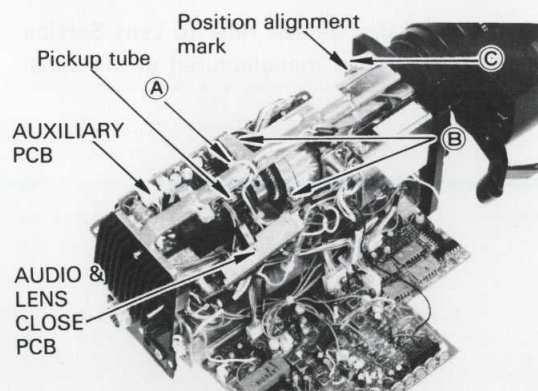

Fig. 3-7-1
- (3) If they are not parallel, loosen **pickup tube fixing screw (A)** shown in **Fig. 3-7-1** and turn the **pickup tube**, pulling it backwards thus making the lines parallel.
- (1) Set the camera level and shoot a horizontal subject. (Adjust the **horizontal lines** of the camera and subject.)
- (2) If the monitor picture is tilted, straighten it by loosening three **screws**, (B), (C) in **Fig. 3-7-1** and rotating the **DY**.
- (3) When the position is determined, put a **position indicating mark** on the chassis and the deflection yoke, as shown in **Fig. 3-7-1**.
- (2) Focus the monitor picture by **zooming in**.
- (3) Confirm that the monitor picture is correctly focused by **zooming out**. (At this time, the focus ring should not be turned.)
- (4) If not focused correctly, loosen three **screws**, (B), (C), in **Fig. 3-7-1** and slightly move the **DY** back and forth. (At this time, the **position indication mark** should be correctly aligned with each other.)
- (5) Re-confirm the **back focus** by repeating **procedures (2) – (4)**.
- (6) Alternately tighten three **screws** (B), (C), so as to evenly tighten the **DY** without movement.